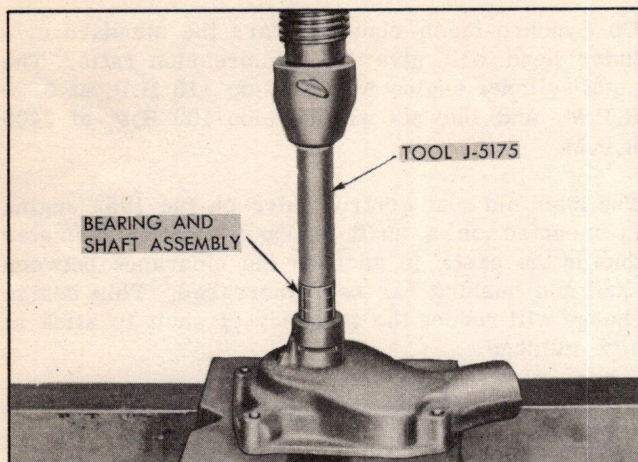

Fig. 1 Installing a Water Pump Bearing
4. Bring ram down and press bearing into housing so groove in outer race will index with groove in body for wire retainer (Fig. 1).